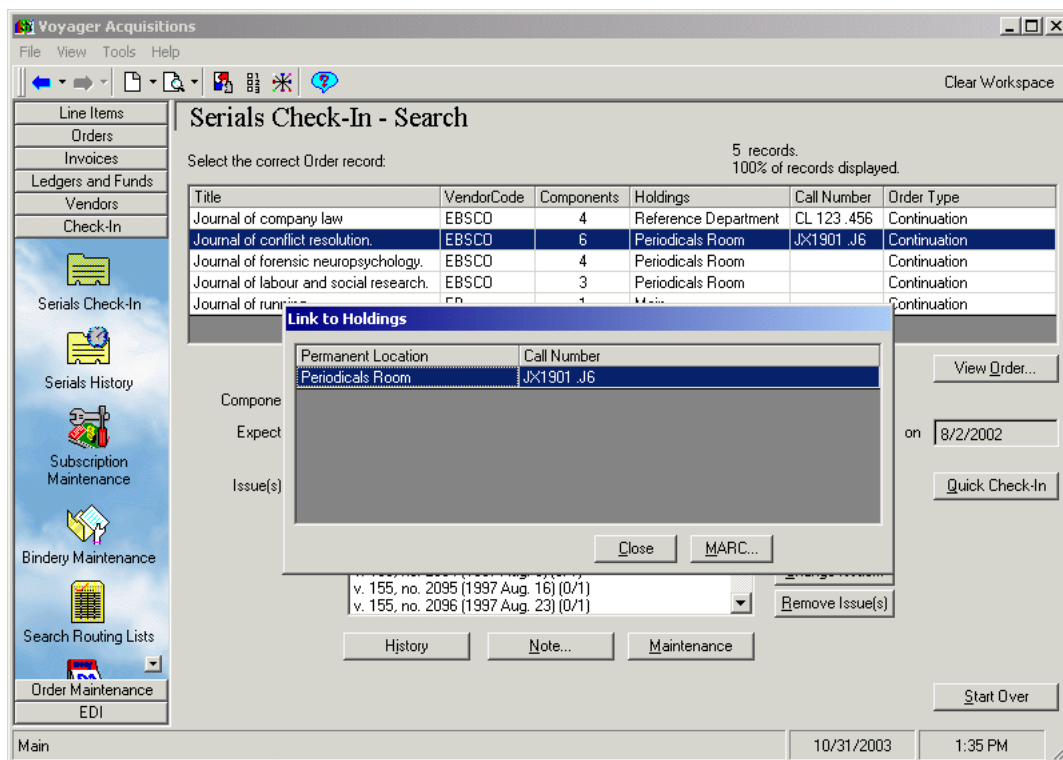

Figure 13-12. Serials Check-In workspace - ellipsis displayed in the Holdings column of the list of records
- Clicking the Holdings column of the list of records that displays after searching for records in **Serials Check-In** displays the **Link to Holdings** dialog box with the MARC button (see Figure 13-12). See Checking In Serials on page 9-4.